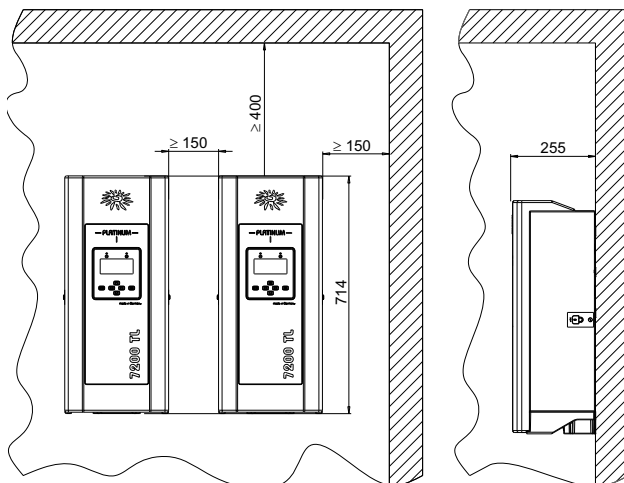

Fig. 5 Spacing for mounting of inverters (indications in mm)
- Verify that minimum distances are kept (see Fig. 5).